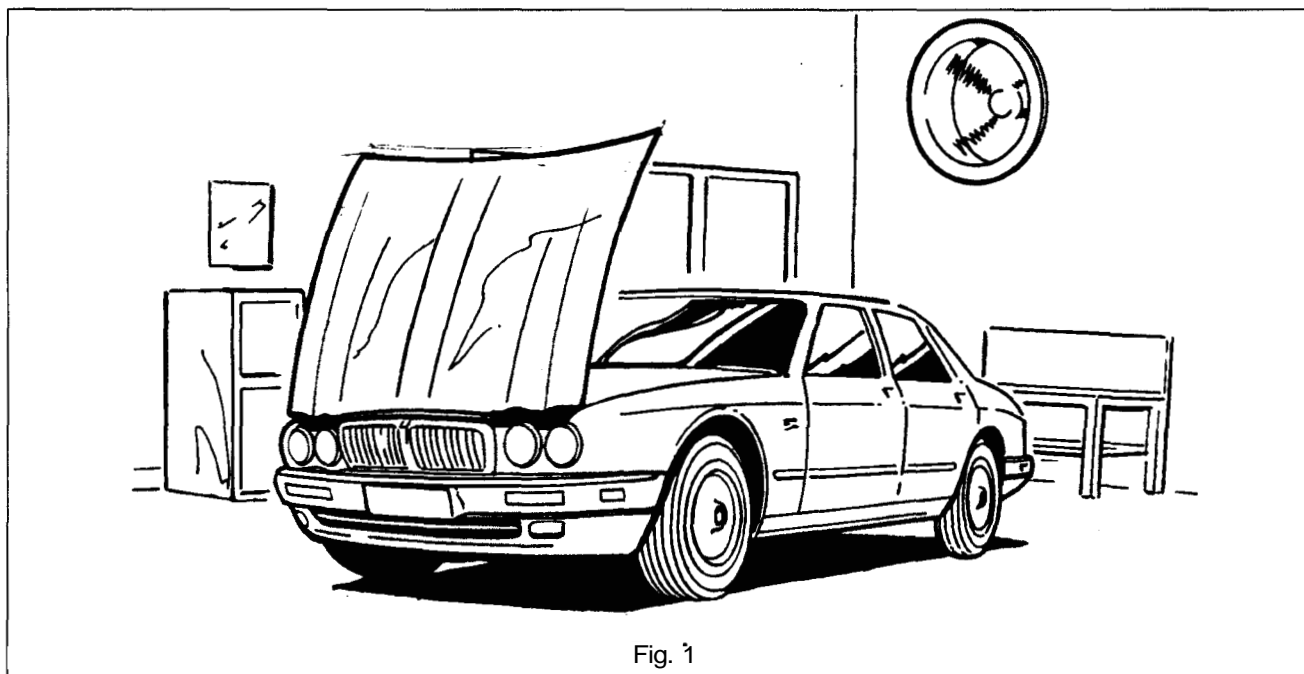

Fig. 1
- Work in a well ventilated, clean and tidy area (Fig. 1).